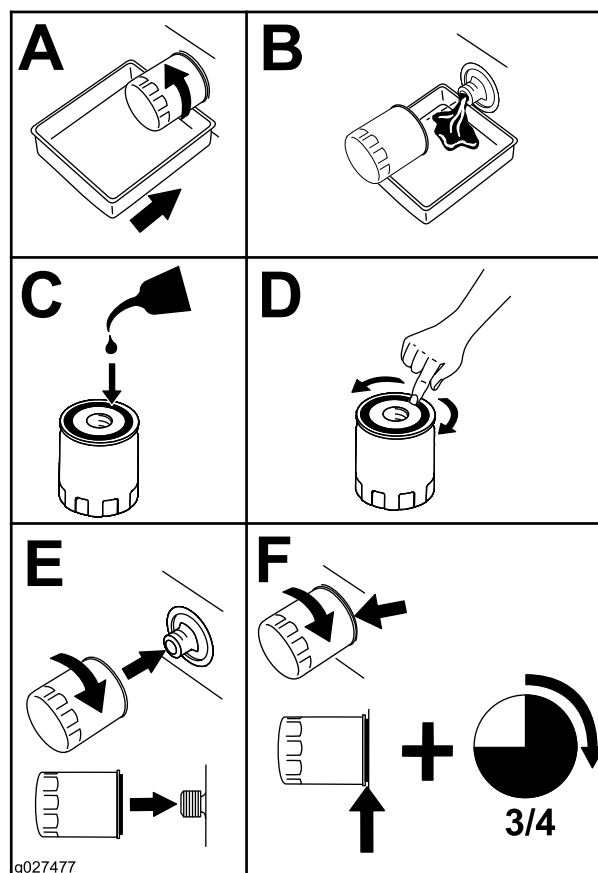

Figure 45
2. Change the engine-oil filter (Figure 45).